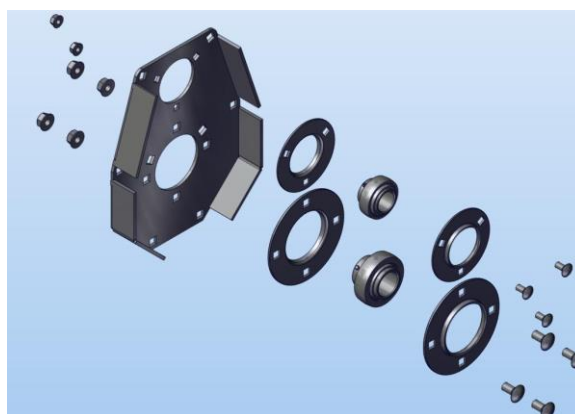

Figure 184
10. Assemble the LH side of the gearcase with the bearings and flanges. Figure 184